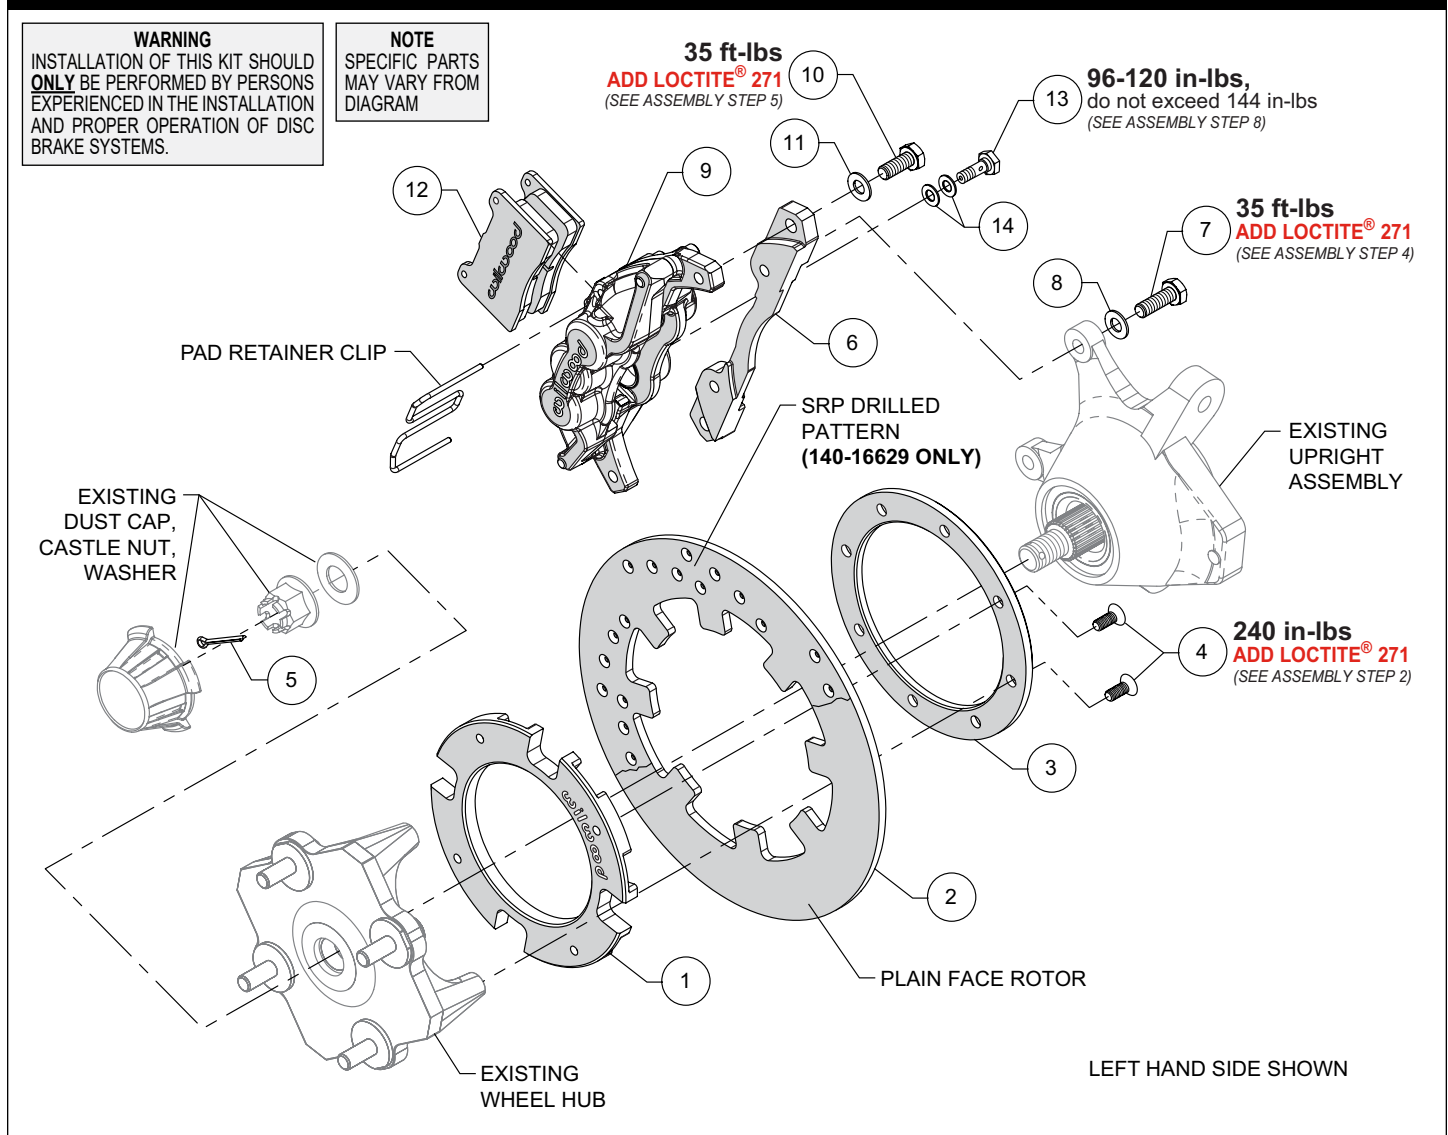

Figure 1. Typical Installation Configuration
NOTE: Numbers in parenthesis refer to the parts list and Figure 1 on the preceding pages.
STEP 1 Place the existing OEM wheel hub face down and position the rotor adapter (1) onto the wheel hub as shown in Figure 1 and Photo 1. **NOTE:** The existing wheel hub must be free of dirt and debris or excessive rotor run out may result.
STEP 2 Position the rotor (2) onto the rotor adapter (1), making sure the rotor lugs fit into the recesses of the rotor adapter, as shown in Photo 2. Place the adapter ring (3) over the assembly and attach using bolts (4), Photos 3 and 4. Using an alternating sequence, apply red *Loctite*® 271 to the threads, and torque to value shown in Figure 1.
STEP 3 Grease the splines and outer snout of the existing wheel hub and slide the wheel hub/rotor assembly onto the axle and attach using the existing OEM washer and castle nut. Tighten to OEM specifications and secure using cotter pin (5), Photo 5. Reinstall the existing dust cap, Photo 6.
STEP 4 Orient the caliper mounting bracket (6), as shown in Figure 1 and Photos 7 and 8. Install using bolts (7) and washers (8). Apply red *Loctite*® 271 to the bolt threads and torque to value shown in Figure 1.
STEP 5 Secure the caliper (9) to the mounting bracket (6) using bolts (10) and washers (11), Photo 9. Apply red *Loctite*® 271 to the threads, and torque to value shown in Figure 1.
STEP 6 Remove the pad retainer clip from the caliper (9). Insert the brake pads into the caliper with the friction material facing the rotor, as shown in Photo 10. Reinstall the pad retainer clip, Photo 11.
STEP 8 Attach brake line to caliper. Orient OEM brake line as shown in Photo 12 and connect to caliper using banjo bolt (13) and crush washers (14). Do not use lubricant or thread sealant on banjo bolt (13). Torque to minimum value shown in Figure 1. Check for leakage, increasing torque only to stop leakage without exceeding maximum specification. Replace crush washers and banjo bolt whenever reassembly is required. **Ensure hoses are routed to prevent contact with moving suspension, brake or wheel components.**